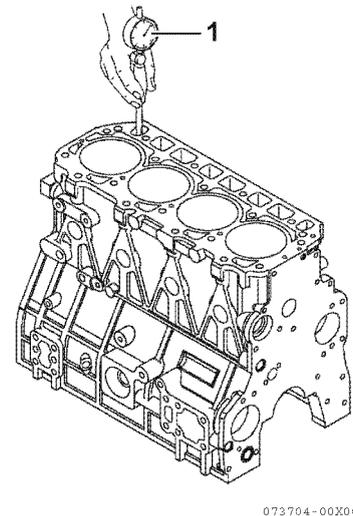

Figure 6-79
3. From the head side of the below illustration, use the cylinder gauge (1, **Figure 6-79**) to measure the tappet bore. Limit values are noted *Tappet* on page 6-14.